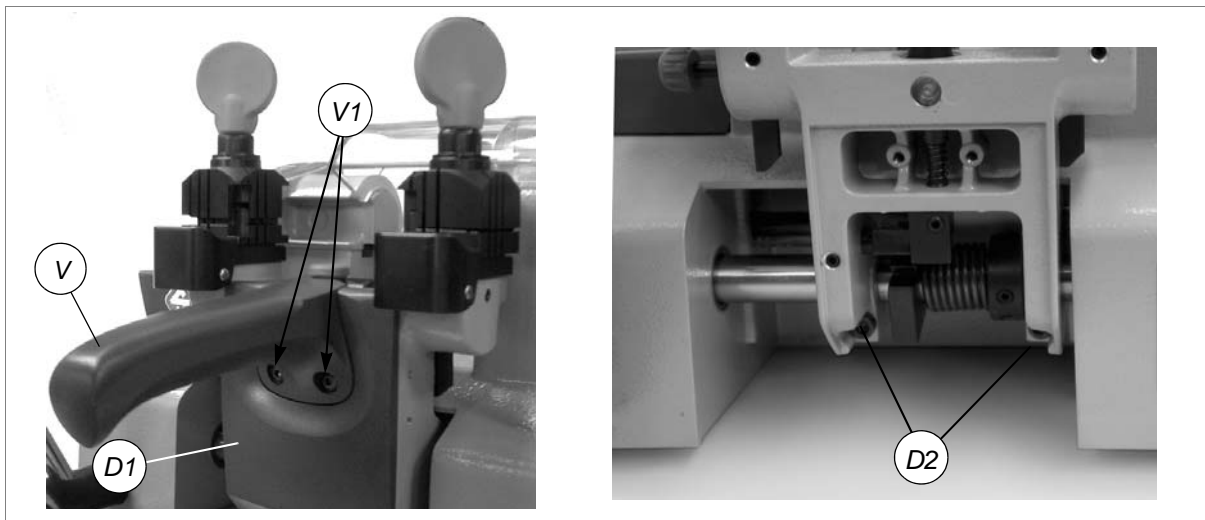
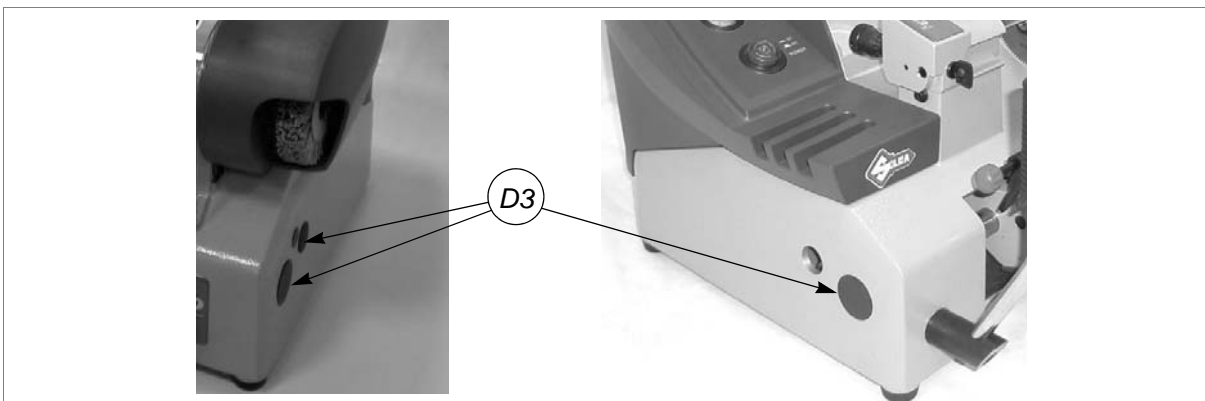
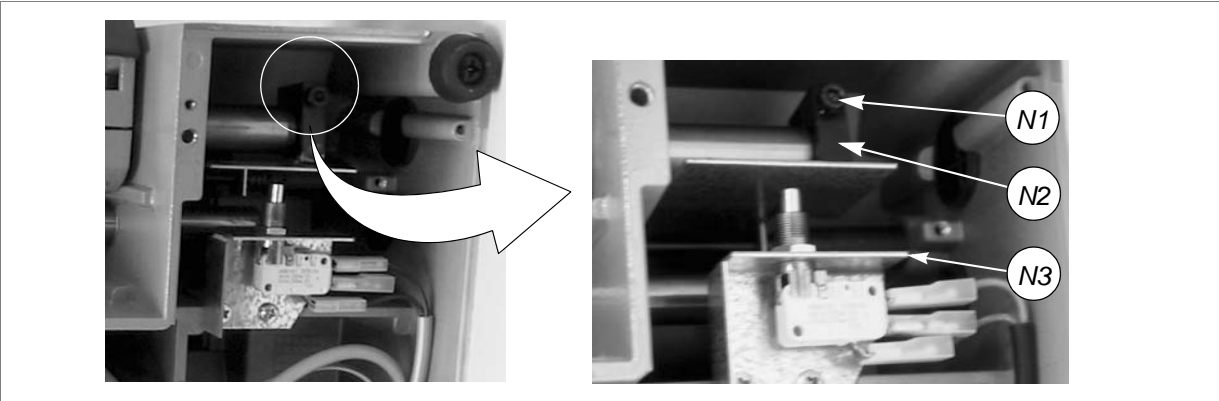

Fig. 38
Fig. 39
Fig. 40
- 3) Loosen the 2 screws (V1) on the carriage knob (V) (fig.38).
- 4) To remove the knob (V), raise a little and pull off.
- 7) Remove the caps (D3) from the base (fig. 39, page 27).
- 8) Remove the swarf tray (N).
- 10) Loosen the 7 screws (W) and 2 feet (W1) and remove the bottom panel (W2) (ch.7.7, page 21).
- 11) Loosen the screw (N1) on the cam (N2) (fig. 40, page 28) and pull the cam to the right to remove.
- 17) Replace the cam (N2) so that it pushes the plate (N3) hard up against the microswitch; tighten the screw (N1) (fig. 40, page 28).
- 18) Replace the bottom panel and fix with the 7 screws (W) and 2 feet. Fit the swarf tray.
- 21) Replace the carriage safety shield (D1) and fit the knob (V), pressing it downwards.